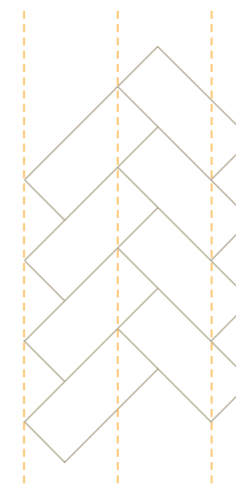

Figure 2: Initial row with reference lines.
- ⚠ Be very careful in laying the initial row correctly and at a right angle, as this is crucial for the rest of the installation process and the end-result. Use reference lines to maintain the direction, as minor inconsistencies quickly spread to the rest of the floor. See figure 2.